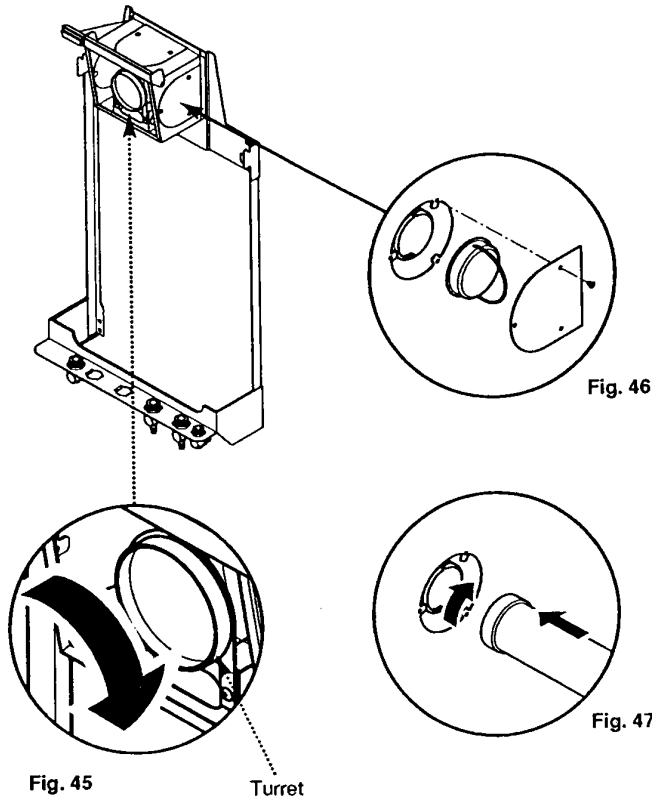

Fig. 45
2. Rotate the turret to face the selected opening (Fig. 45) and remove the side blanking cap by pushing in and turning anti-clockwise to release the bayonet fitting (Fig. 46).